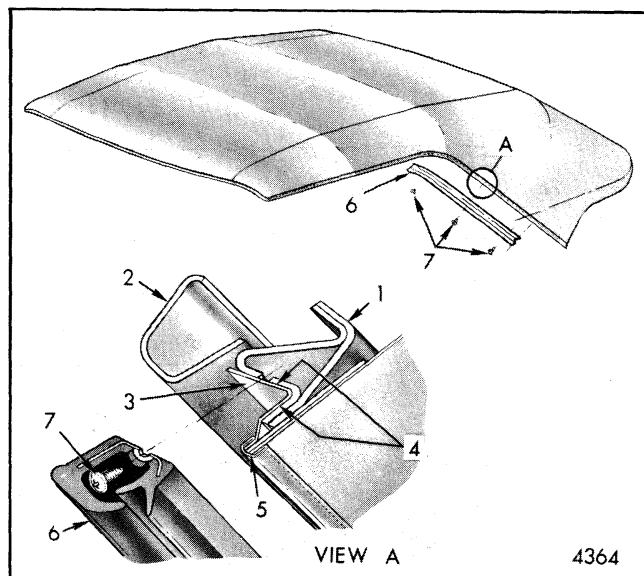

Fig. 8-87-Side Roof Rail Rear Weatherstrip and Quarter Retainer Attachment
4. Lower top halfway, rotate windows to down position and remove side roof rail rear weatherstrips. Mark reference locations of quarter retainers on side rails (Fig. 8-87) and detach cemented retainers from side rails.
rear rail and to top cover quarter retainer (flap). Center top (laterally) by aligning horizontal reference on each side at trimstick. Secure quarter retainer (flap) at bottom. Also, double staple or tack top cover at front of trimstick (Fig. 8-87 and View "Z", Fig. 8-85) using 12 ounce tacks or equivalent staples.